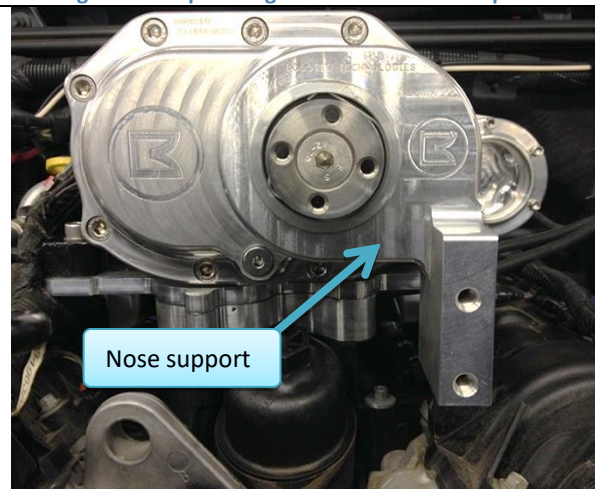

Figure 59: Supercharger nose support installed properly.
35. Install supercharger nose support on nose (Figure 59)